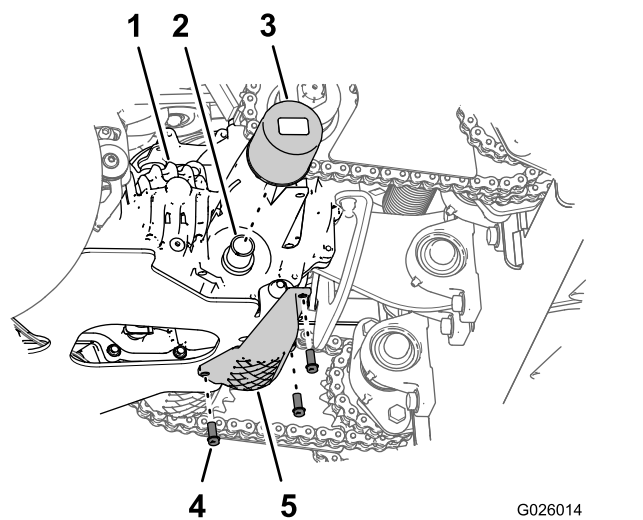

Figure 65
3. Remove the 3 washer-head bolts (1/4 x 3/4 inch) that secure the filter guard to the transmission, and remove the guard (Figure 65).
4. Clean the around the transmission filter (Figure 65).
6. Rotate the filter counterclockwise and remove the filter (Figure 65).
8. Install the filter by rotating it clockwise onto the filter adapter until the seal contacts the base of the adapter, then tighten the filter an additional 3/4 to 1 turn (Figure 65).
9. Install the filter guard with the 3 washer-head bolts (1/4 x 3/4 inch) that you removed in step 3 (Figure 65), and tighten the bolts to 1117 to 1243 N-cm (90 to 110 in-lb).